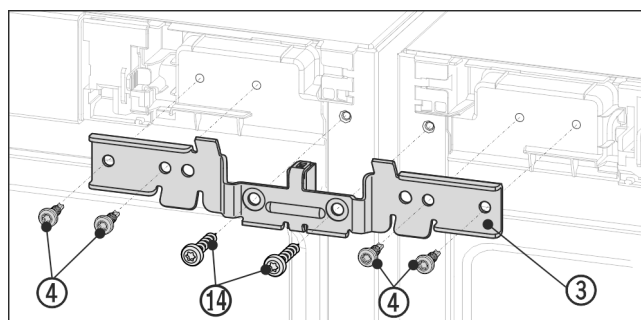

Fig. 11 Example illustration
- Slide the bracket Fig. 11 (3) with the spacer between the appliances onto the pins. Loosely screw on the bracket with four screws Fig. 11 (4) and the previously unscrewed grounding screws Fig. 11 (14) alternately on the right and left.